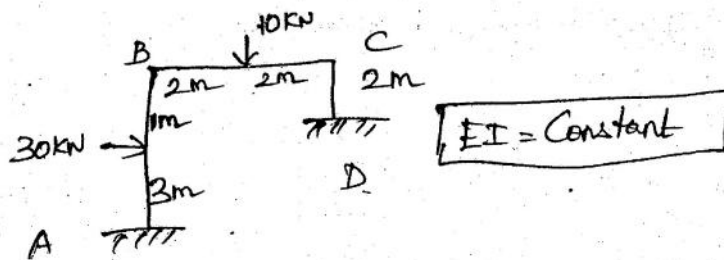

Figure-8
8. Analyse the portal frame shown in figure-8 by stiffness matrix method.